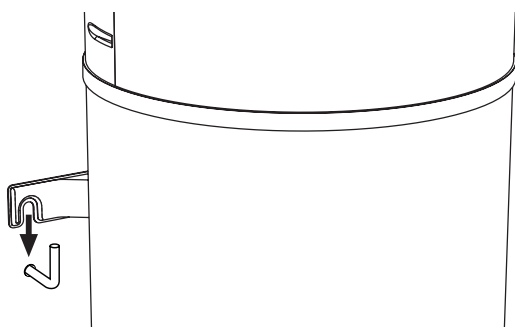

fig. 51 - Wall fixing
- Hook the boiler with the special fastening bracket (fig. 51).